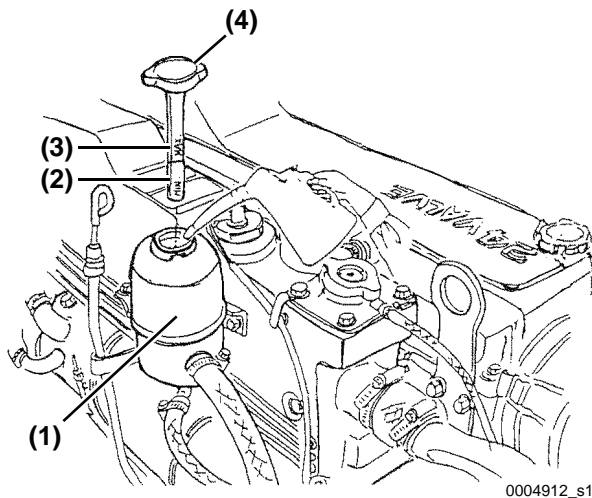

Figure 3-23
1. Remove the filler cap / dipstick (**Figure 3-23, (4)**) from the power steering oil service tank (**Figure 3-23, (1)**) and wipe with a clean cloth.
3. Remove the dipstick. The oil level should be between upper (**Figure 3-23, (3)**) and lower (**Figure 3-23, (2)**) lines on the dipstick.